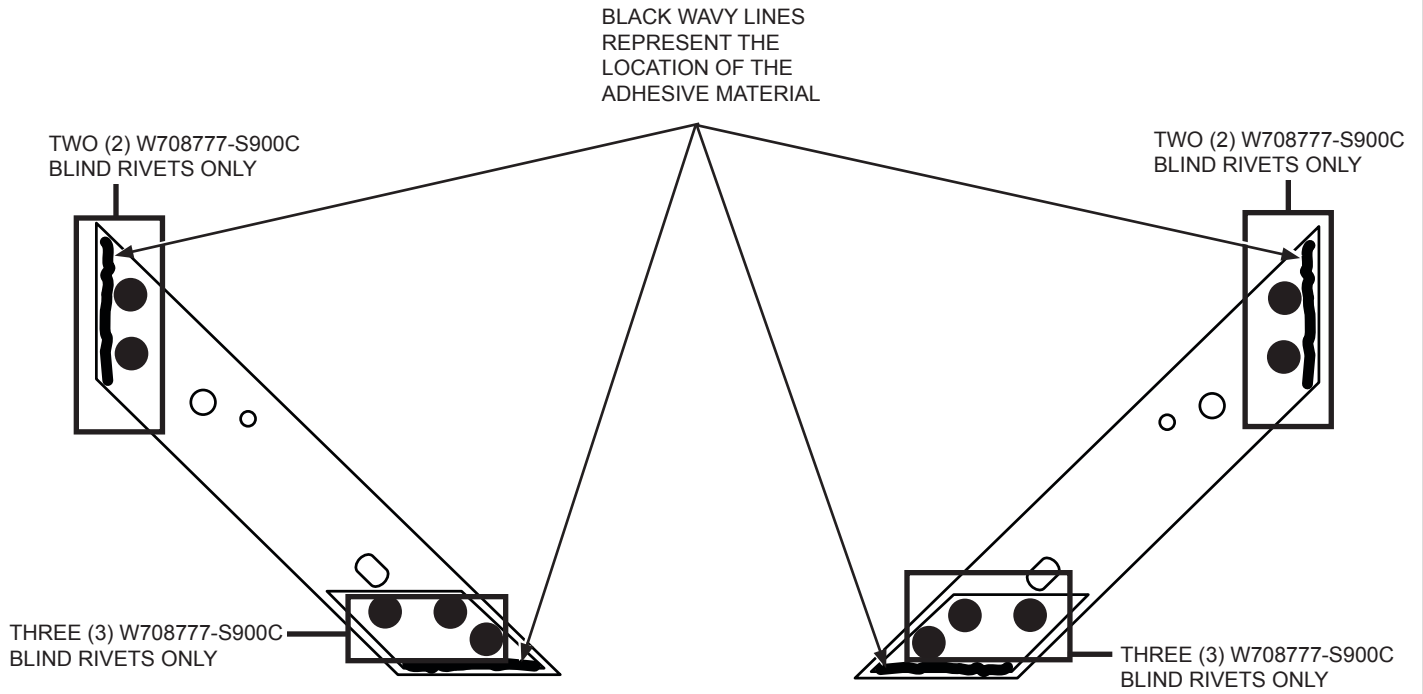

FIGURE 1
- (Refer to Figure 1) for rivet and adhesive material locations.